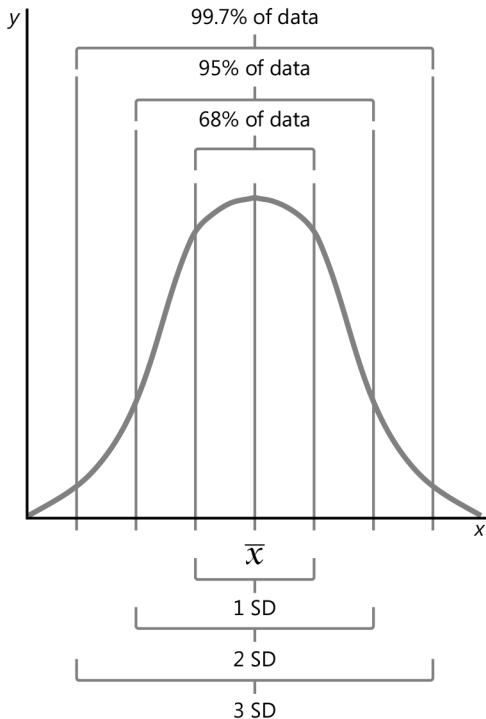

FIGURE 4-10 A curve shows standard deviations.
Figure 4-10 shows a normal distribution and the range of a population you would expect to find with either one, two, or three standard deviations (SD) either side of the mean.